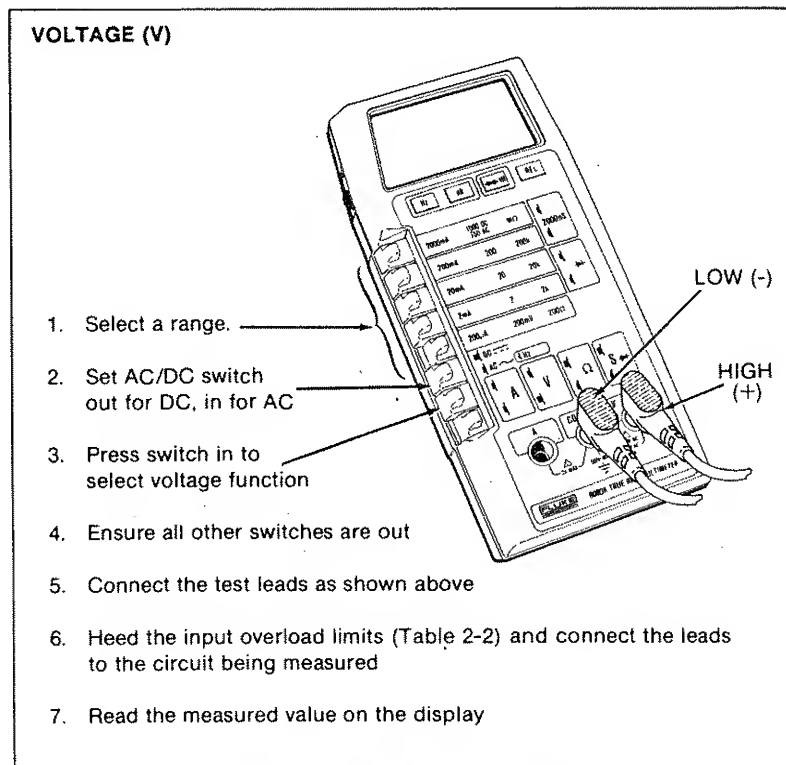

Figure 2-6. Voltage Operation
1. Select the dc voltage function and the 20V range (refer ahead to Figure 2-6 if necessary).
Selection of the ac or dc voltage (V) functions is described in Figure 2-6. The 8060A offers five ac and five dc voltage ranges: 200mV, 2V, 20V, 200V, and 750V ac/1000V dc. All ranges present a 10 M Ω input impedance, which is shunted by <100pF in ac voltage measurements.